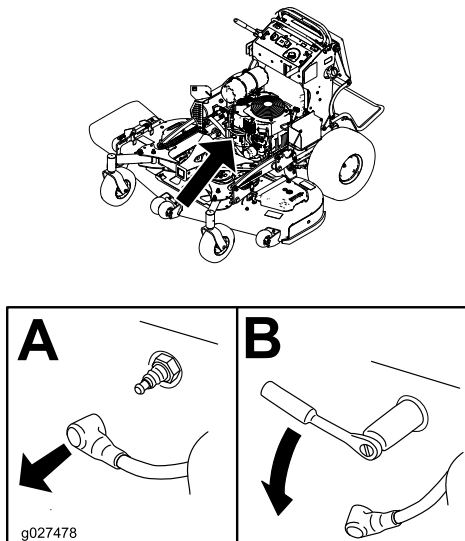

Figure 54
3. Remove the spark plug as shown in Figure 54.